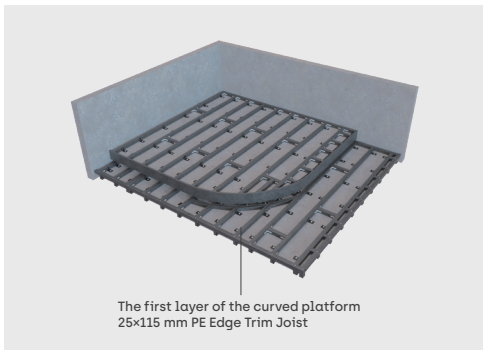

Figure 2-8
4. The completed joist installation is shown in Figure 2-8. The curved platform edge finishing requires two layers of edge joists. The first layer supports the ends of the decking, while the second layer supports the 50×25 mm edge trim boards, which is installed after the decking boards have been cut to the required curved profile.